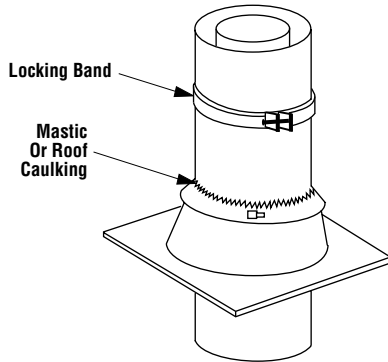

Figure 28
Step 8. The standard FireCraft Technologies' FTF8 roof flashing assemblies include a storm collar. Slide the storm collar over outer chimney, rest on flashing spacers and align with top surface of flashing. Insert tab in slot, pull tight and bend tab back over slot. Seal storm collar to outer chimney with roof caulking or mastic around entire circumference of pipe. Also add extra roof caulking to the tab/slot area to seal completely against water penetration (Figure 28). Check all joints very carefully to ensure no water intrusion can take place.